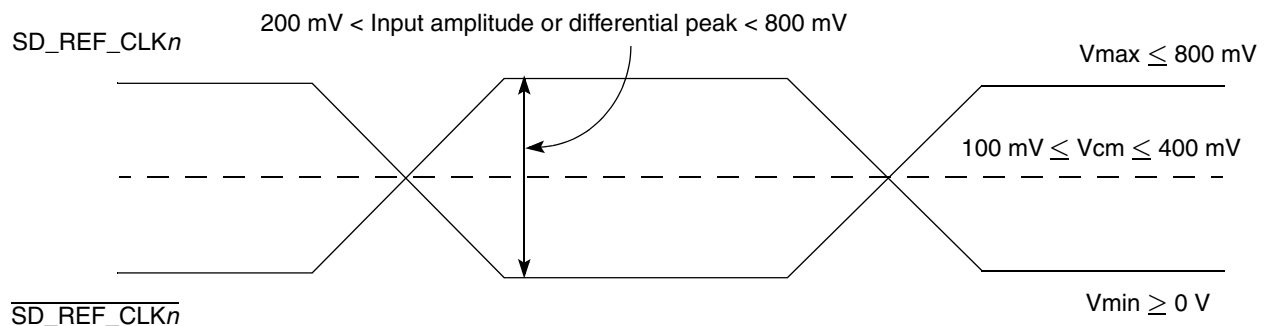

Figure 34. Differential Reference Clock Input DC Requirements (External DC-Coupled)
- For an external DC-coupled connection, as described in Section 2.19.2.1, “SerDes Reference Clock Receiver Characteristics,” the maximum average current requirements sets the requirement for average voltage (common mode voltage) as between 100 mV and 400 mV. Figure 34 shows the SerDes reference clock input requirement for DC-coupled connection scheme.